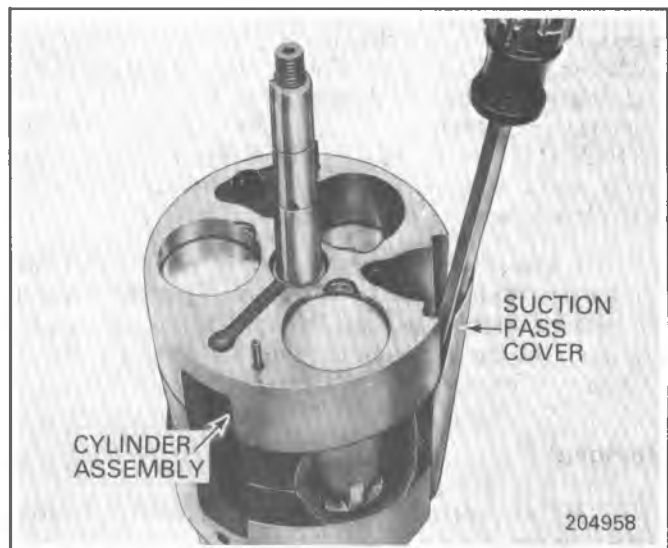

Fig. 1D-29 Removing A-6 Suction Cross-Over Cover
19. Remove Suction Cross-Over Cover by prying with screwdriver between cylinder casting and cover (Fig. 1D-29).